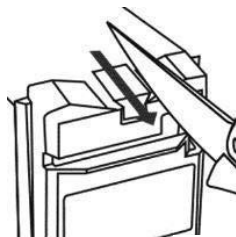

Fig. 8
4. Swipe the full length of the blade across the wheel while applying light and steady pressure (Fig. 8).